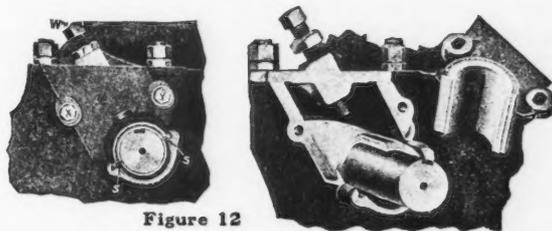

Figure 12
Fig. 12 illustrates a side view of the crank bearings with parts removed, showing the adjusting screw (W). To remove the cap (U) loosen the set screw (W) and take out cap screws (X and Y). To adjust this box, loosen jamb nut (T), screw down the screw (W), or if worn very loose, use thinner liners at SS.